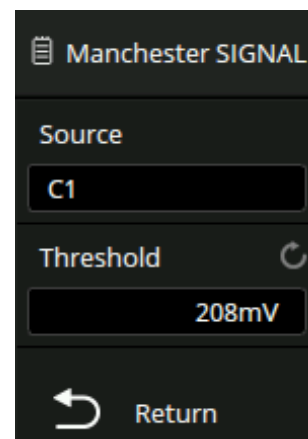

Figure 10.60
1. The **Manchester SIGNAL** menu will be displayed. (Figure 10.60)